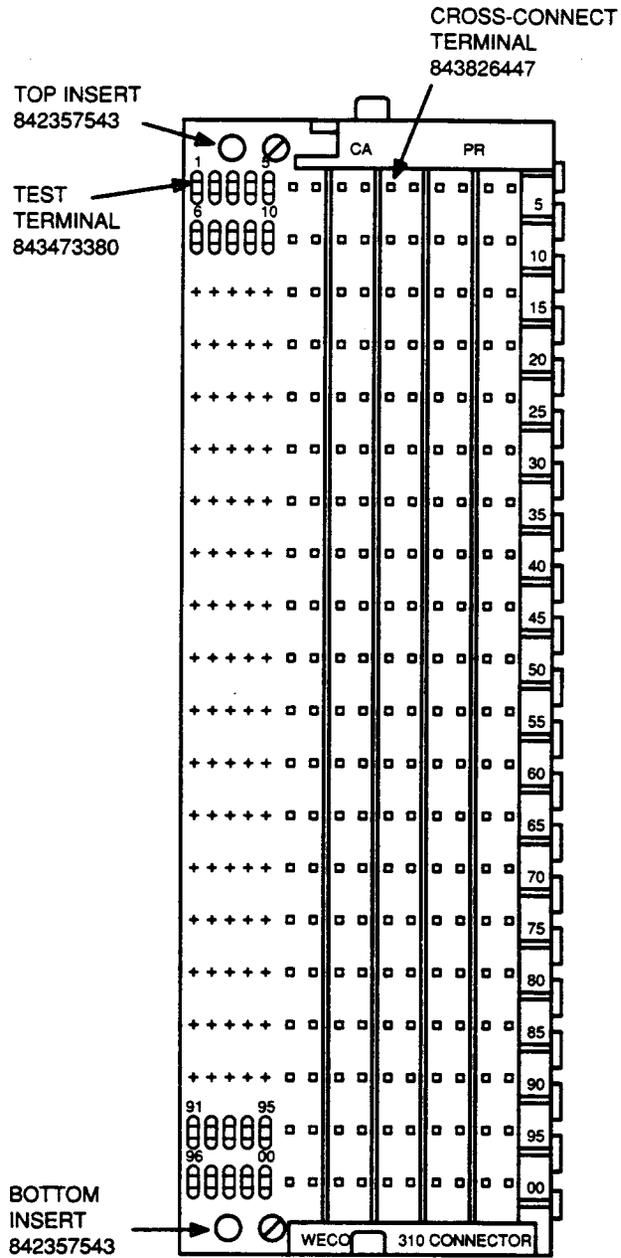

Figure 17. 310-Type Connector, Front View
4.11 The 843826447 cross-connect and the 843473380 test terminals (Figure 17), and the quick clip terminals cannot be easily replaced without unfastening the connector and moving it out from the framework vertical. For this reason, no removal or replacement procedures are given. If it is necessary to replace one of these terminals or the top or bottom insert, contact your local AT&T Account Executive.
8.02 The 843826447 cross-connect and 843473380 test terminals (Figure 17) cannot be easily replaced. In addition, repair of broken or damaged wire conductors leading from the swivel type metal coupling to the 842360562 tip or ring terminal (Figure 14) must comply with special requirements to protect the integrity of the UL Listed design. If it is necessary to perform either of these operations, contact your local AT&T Account Executive for assistance.